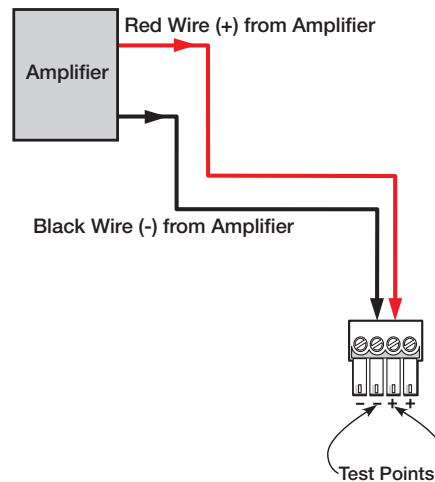

Figure 16. Signal Test Points – Loop-through Configuration
- The source signal can be tested by connecting to the inner + (IN) and – (IN) terminals of the captive screw connector, as shown in figure 16.